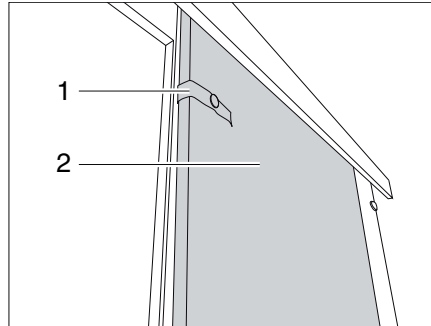

Fig. 77 Sliding door
- Release the securing strap (Fig. 77,1).
- Pull the sliding door (Fig. 77,2) into the closing position.
- Push the sliding door (Fig. 77,2) into the open position.
- Secure the sliding door with the securing strap (Fig. 77,1).